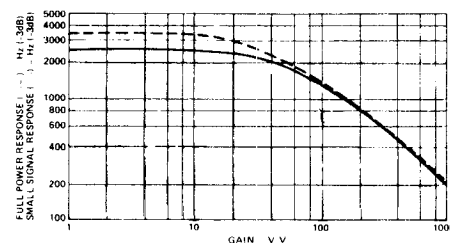

Figure 17. Full Power and Small Signal Bandwidth vs. Gain
**Frequency Response:** Small signal bandwidth and full power bandwidth versus gain are shown in Figure 17. For gains greater than 100V/V, both bandwidths are identical and approach 200Hz at  $G = 1000\text{V}/\text{V}$ . Full power response is measured with the output set at 10V p-p; small signal bandwidth ( $-3\text{dB}$ ) is measured with the output set at 100mV p-p.